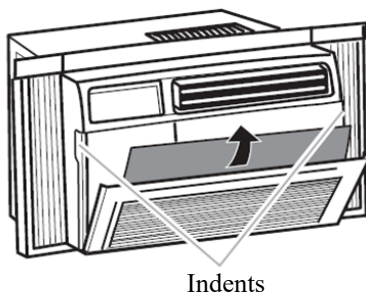

FIG. 5
1. Remove the filter by pulling down on the indents of the filter door on the front of the unit (See FIG. 5).